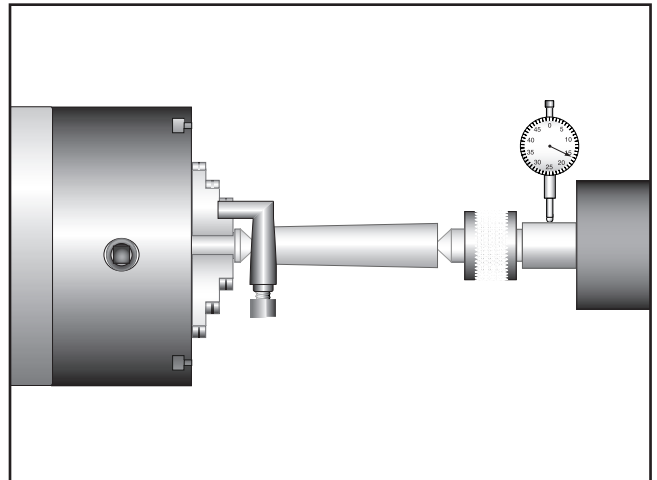
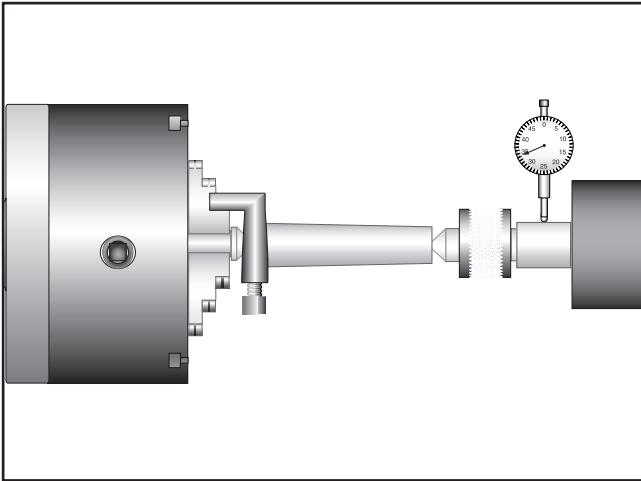

Figure 71. Adjusting for headstock end taper.
Figure 72. Adjusting for tailstock end taper.
Before making adjustments to the tailstock, mount a dial indicator so that the dial plunger is on the tailstock barrel. See Figure 71.
6. Measure the workpiece with a micrometer. If the stock is fat at the tailstock end, the tailstock needs to be moved toward you the amount of the taper. See **Figure 71**. If the stock is thinner at the tailstock end, the tailstock needs to be moved away from the operator by at least half the amount of the taper. See **Figure 72**.